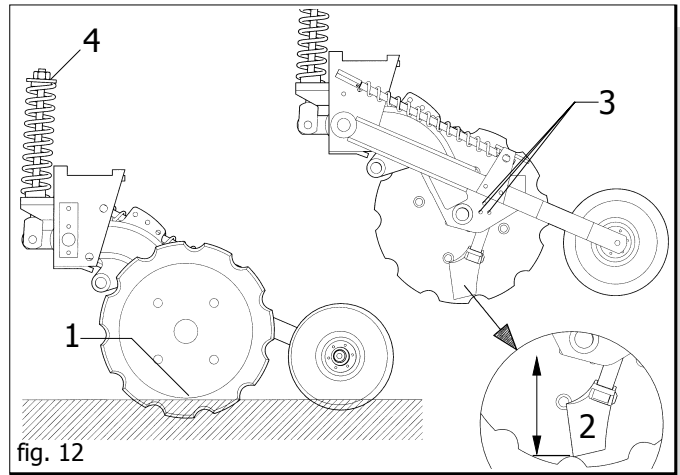

fig. 12
To obtain a good level at which sprouts come out, the seed needs to be placed at the right depth into the seeding bed. The depth of the seed placement correctly determined when the ballast on the side of the disk leans on the ground (fig. 12 rif. 1).
a) By modifying the **relative position between colter depositor and furrow opener disk**, acting on the colter fastening screws (fig. 12 rif. 3) and moving it to the desired height (fig. 12 rif. 2).
**IMPORTANT:** The inferior hedge of the coulter should never be adjusted deeper than the internal profile of the toothed disk (that is: all inner side of the coulter should always lay against the disk when this is rotating) (fig. 12). When tightening the screws, make sure they are tightened evenly so that the cutting edge of the colter adheres perfectly to the disk surface without interfering with its rotation.
- 4) If necessary adjust all the position springs by means of the nut (4 fig. 12) until you reach the position described at point (3).